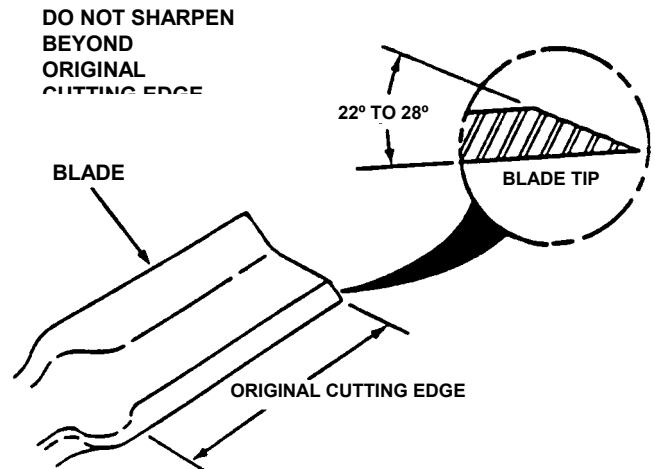

FIGURE 5.7
3. If blade is in good condition, sharpen at 22 to 28 degrees. DO NOT sharpen beyond original cutting edge. See Figure 5.7.